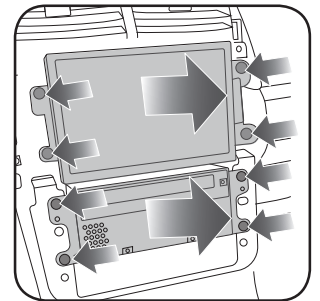

Fig. 1.4
6. Remove four (4) 7mm screws holding the screen. Unplug and remove the OEM screen. (Fig. 1.4)